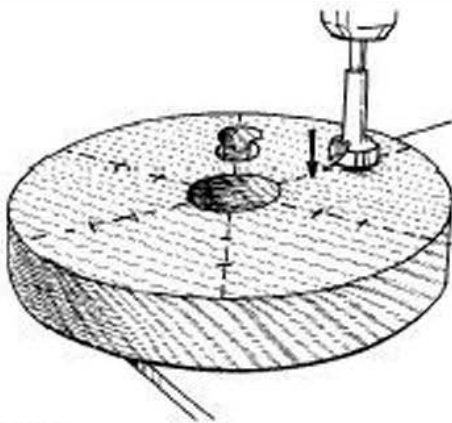

FIGURE 19-5
- 6** Use a $1\frac{3}{8}$ "-diameter Forstner bit to drill out the piston chamber holes (Figure 19-5). Drill two holes for each chamber.